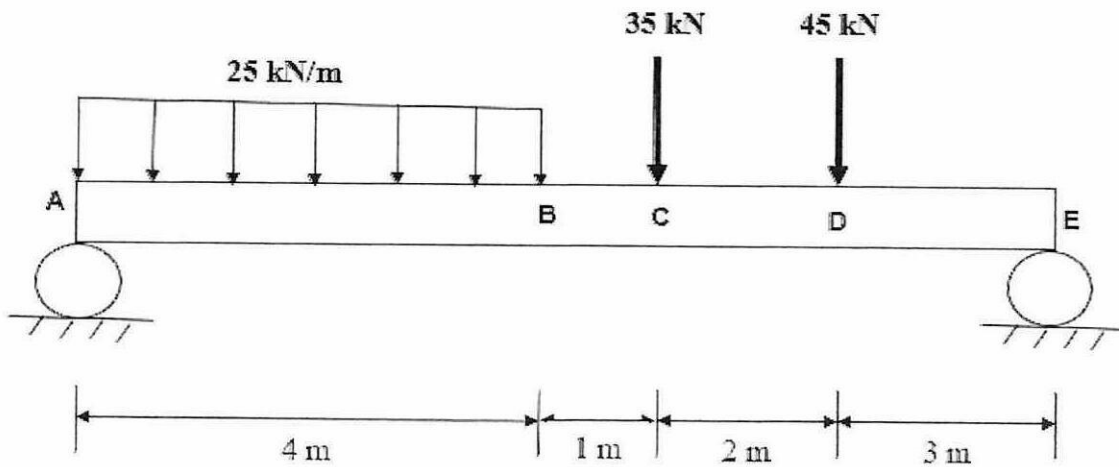

Figure Q4: A Simply Supported Beam
- Q4** A simply supported beam as shown in **Figure Q4** in **Appendix II** is subjected to uniform distributed load of 25 kN/m from A to B, and point loads of 35 kN and 45 kN at points C and D respectively. The beam is supported with roller support at both ends A and E. Given the value of elastic modulus,  $E = 200 \text{ kN/mm}^2$  and moment inertia,  $I = 10^8 \text{ mm}^4$ .